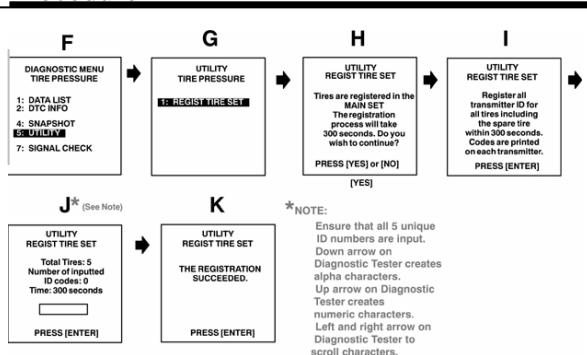

Fig. 10-3
- Turn on Tester and Select UTILITY - REGIST TIRE following the hand-held tester screen prompts. (Fig. 10-2 & Fig. 10-3)